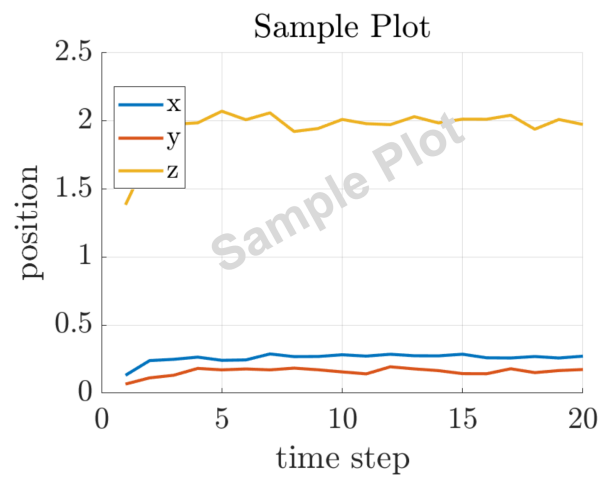

Figure 2: A sample plot of object position (the state) trajectory vs. the time steps.
- (10 pts) For each of the four cases, plot the object position (the state) trajectory vs. the time steps (Figure 2 is a sample plot). Also, report the final estimated object position for each filter. Include this information in your PDF submission with appropriate labels.